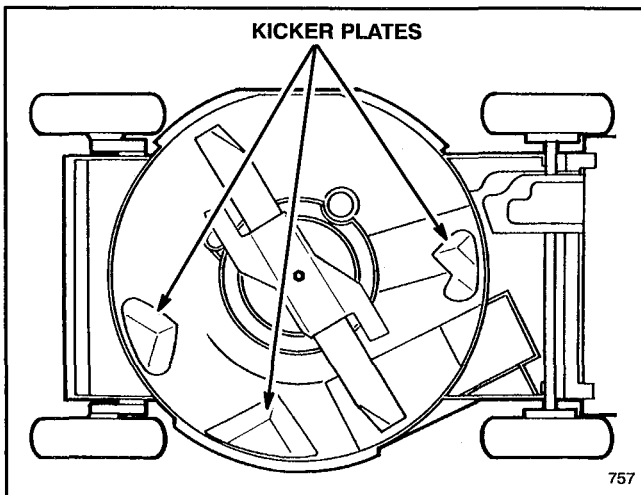

Figure 32
Keep underside of mower housing clean. Be especially careful to keep kickers free of debris (Fig. 32).
4. Tip mower on its right side (Fig. 32). Avoid rotating blade because starting problems may result.